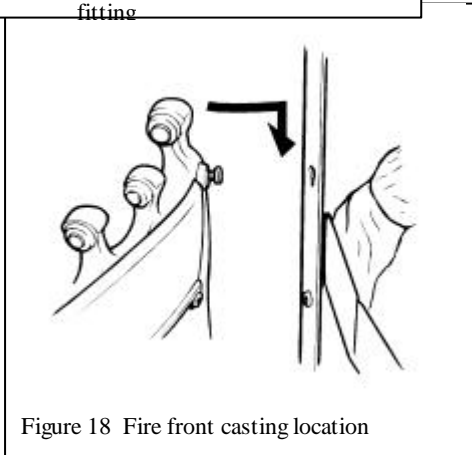

Figure 18 Fire front casting location
- Fit the fire front casting between the front surround sides. Where fitted to the casting, locate the two screw heads at the rear top corners of the casting through the keyhole slots at the inner sides of the surround. If the screw heads do not project enough or project too far, the screws can be adjusted. Lower the casting so that it rests on the hearth. See figure 18.